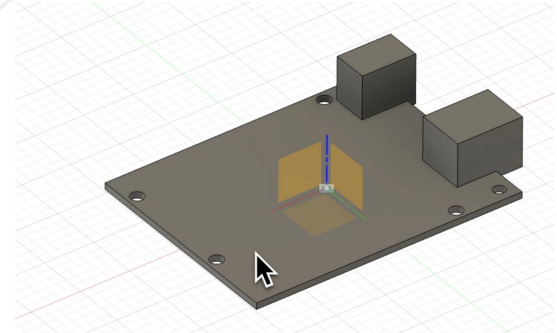

Figure 1.6
- This locks the Arduino in place, ensuring it's positioned accurately within your assembly. After applying the joint, the component can no longer move freely (see Figure 1.6).